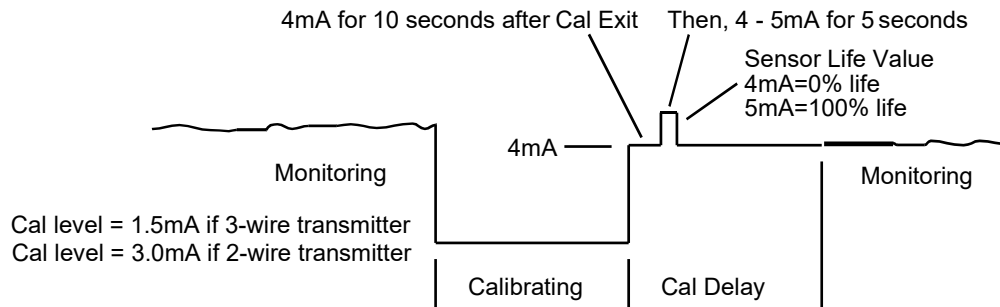

Figure 5-5: Transmit Sensor Life Timing Diagram
**TX Sensor Life** set for YES, causes the ST-48 4-20mA output to transmit a sensor life value after successful calibrations during the CAL PURGE delay (see section 4.1). Normal operation is the ST-48 transmits 4mA during the CAL PURGE delay. But with **TX Sensor Life = YES** it transmits 4mA for the first 10-seconds, then for 5-seconds transmits a value between 4mA and 5mA, with 4mA equal to 0% sensor life and 5mA equal to 100% sensor life (see Figure 5-5). The output then returns to 4mA for the remainder of the CAL PURGE delay. For example, if after a calibration sensor life is 75%, the ST-48 transmits 4.75mA during the 5-second interval. Note: **TX Sensor Life** should always be set for NO unless the 4-20mA receiver is capable of interpreting the sensor life signal. The PureAire ST-71 Controller is capable of this function.